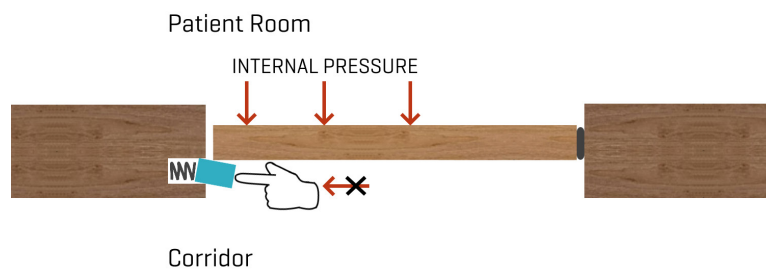

Figure 13.1
- Avoid push-in style stops – these are designed to be operated by pushing in the protruding stop with your fingers. If pressure is applied from the inside of the door, the stop itself can become jammed, and as the stop is being operated, the fingers can become jammed or injured, refer figure 13.1.